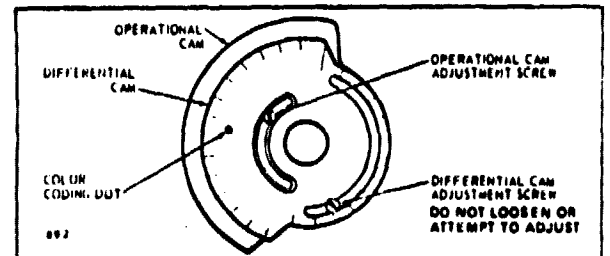

FIG. 17-SWITCH CAM MAY BE ADJUSTED TO OPERATE THE SWITCH DURING ANY PART OF THE STROKE.
3. With the motor in the normal position, loosen the adjustment screw for the operational cam. See Fig. 17. Using the 10-degree marks on the cam and a fixed point such as the cam roller for a guide, rotate the cams clockwise (counterclockwise for normally open motors) through an arc equal to the number of degrees the motor should travel before switch operates. Tighten the operational cam adjustment screw.